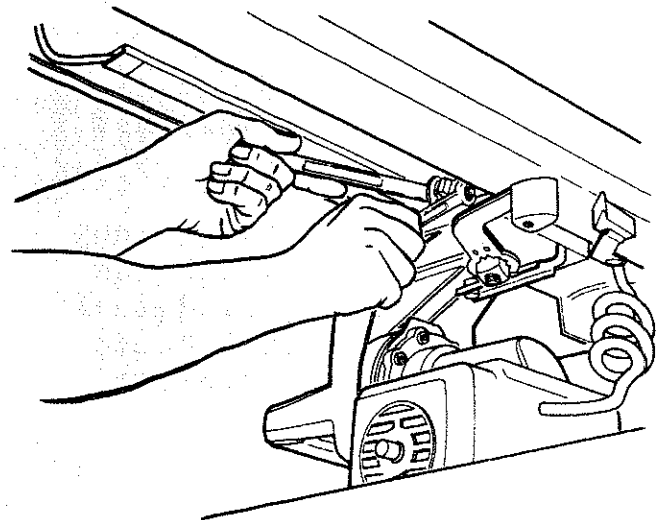

Fig. 117
6. Loosen the hex nut on the *rear carriage bearing*. Use a 9/16 inch wrench to hold the bolt and a 1/2 inch wrench to loosen the nut. (Figure 117)